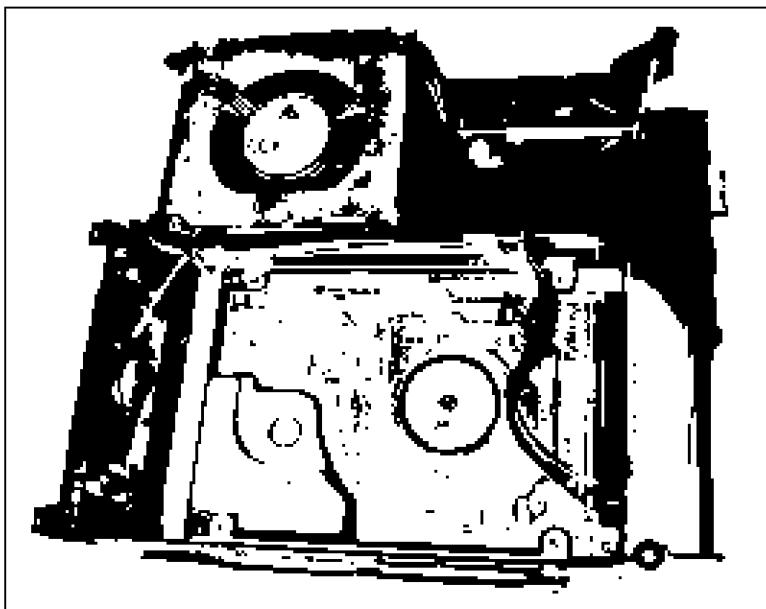

Figure 7-6:
3. Turn the internal frame over, as shown in Figure 7-6.
Note that the lower-right corner of the fan (as shown in Figure 7-6) does not have a screw.
You may notice another piece of yellow tape that covers a small hole in the black plastic internal frame; you can see this tape near the upper-right corner of Figures 7-6 and 7-7. Do not remove this tape; the hole needs to be covered to direct airflow within the Mac mini.